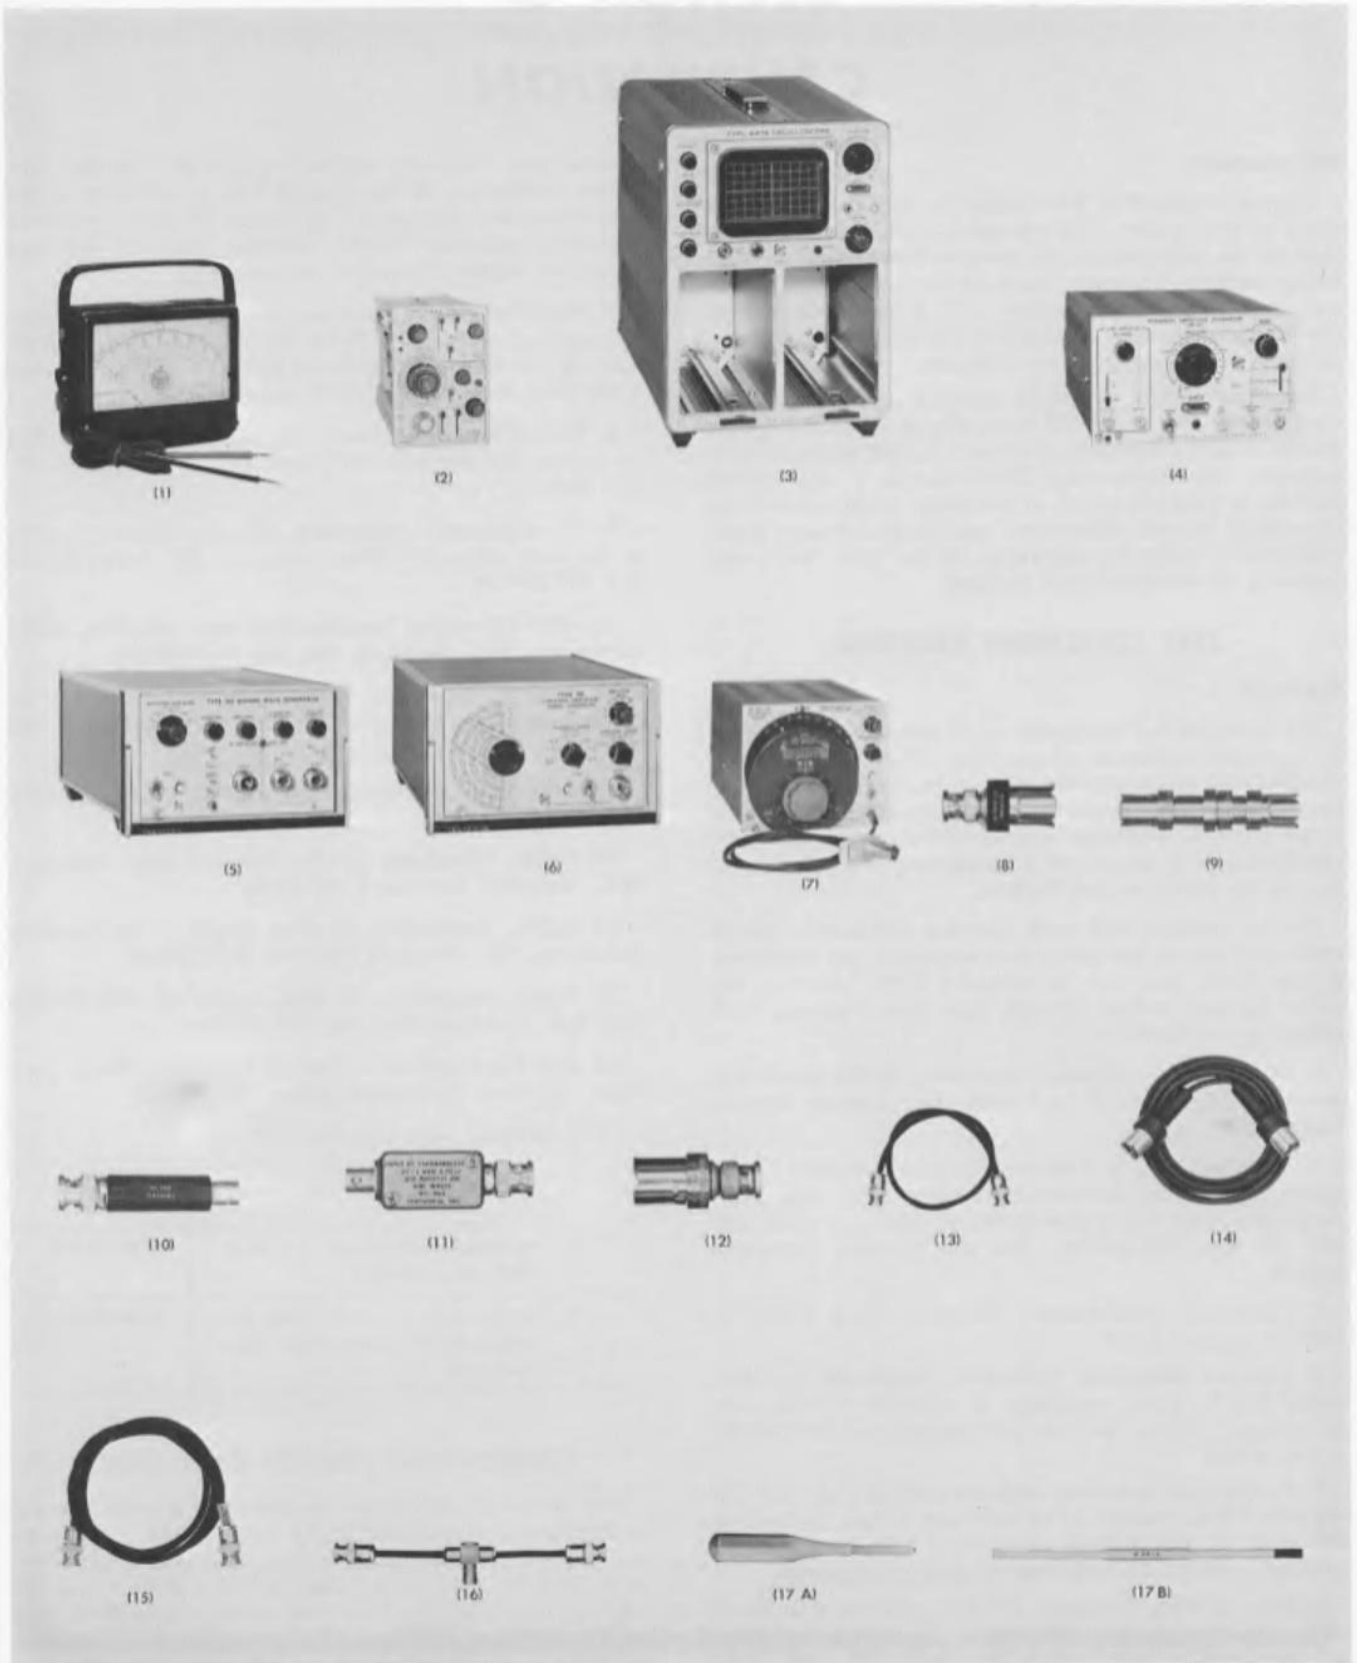

Fig. 6-1. Recommended calibration equipment.
The following test equipment, or its equivalent, is required for complete calibration of the Type 10A2A (see Fig. 6-1). Specifications given are the minimum necessary for accurate calibration of this instrument. All test equipment is assumed to be correctly calibrated and operating within the given specifications. If equipment is substituted, it must meet or exceed the minimum specifications.
17. Adjustment tools (see Fig. 6-1).